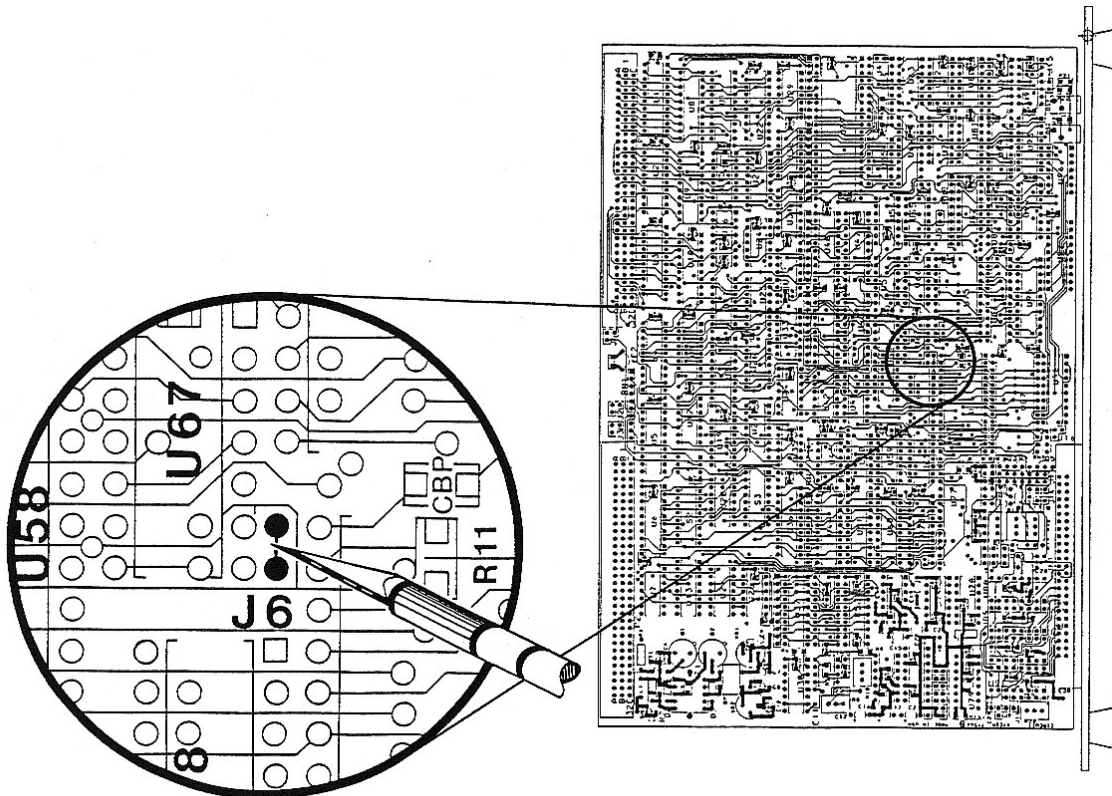

Figure 2-5
Jumper J6 is shorted by a trace on the circuit side of the card. If the jumper is not used (that is: if the smaller, 8K, memory block are chosen), the trace must be cut. Figure 2-5 shows the location of the trace to be cut. There should be no need for the user to remove this jumper.
4. Locate the circuit trace shown in Figure 2-5.
5. Use a sharp tool (knife, X-acto blade, etc) to CAREFULLY sever the trace, as shown in Figure 2-5.